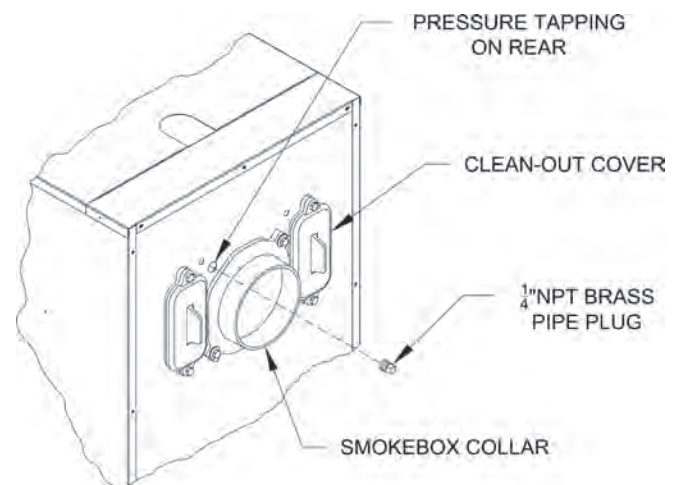

Figure 12: Smokebox Pressure Tapping for Checking Draft at Breech
2. Minimum Draft at Breech (Canopy) – The draft induced by a chimney must create at least a pressure of 0 (zero) inches water column (“ w.c.) at the pressure tapping on the canopy mounted on rear of boiler (see Figure 12). The pressure at the canopy **cannot** be positive since this could create a condition that allows flue gas by-products to escape from the draft regulator. A negative pressure reading up to -.03 inches water column is acceptable for proper operation. (See Tables 12A, 12B and 13 Burner Specifications at the rear of this manual for more details)